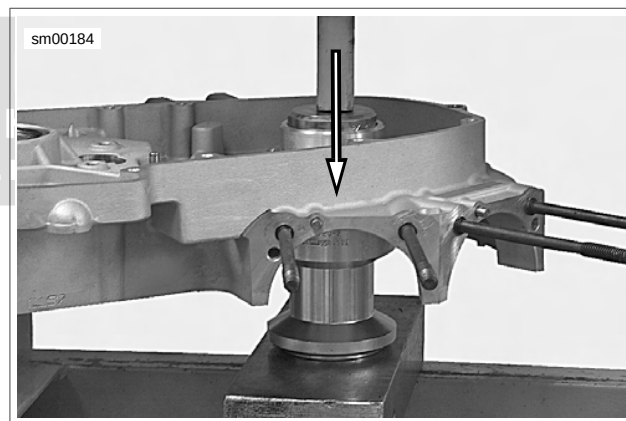

Figure 3-125. Direction of Bearing Removal From Left Crankcase
8. See Figure 3-125. Using CRANKCASE BEARING REMOVER/INSTALLER WITH ADAPTER (Part No. B-45655, HD-42720-2 and HD-46663) press sprocket shaft bearing out of the left crankcase half.